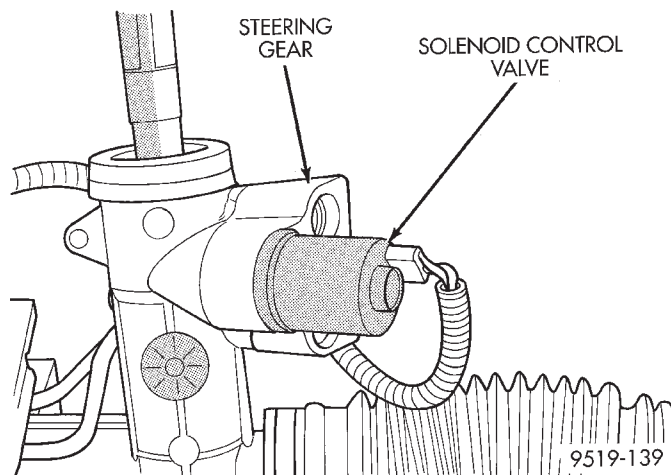

Fig. 5 Steering Gear Solenoid Control Valve
(2) Using a 1 5/16 inch crow foot loosen solenoid control valve from steering gear. Then remove solenoid control valve from power steering gear (Fig. 5).
(1) Inspect O-ring seals on solenoid control valve to be sure they are not damaged. If O-rings are not damaged, moisten O-rings using **only** fresh clean Mopar, Power Steering Fluid or equivalent.
(2) Install solenoid control valve into steering gear by hand, until solenoid is fully seated into the steering gear (Fig. 5).
(3) Using a 1 5/16 inch crow foot torque the solenoid control valve to 14 N·m (124 in. lbs.).